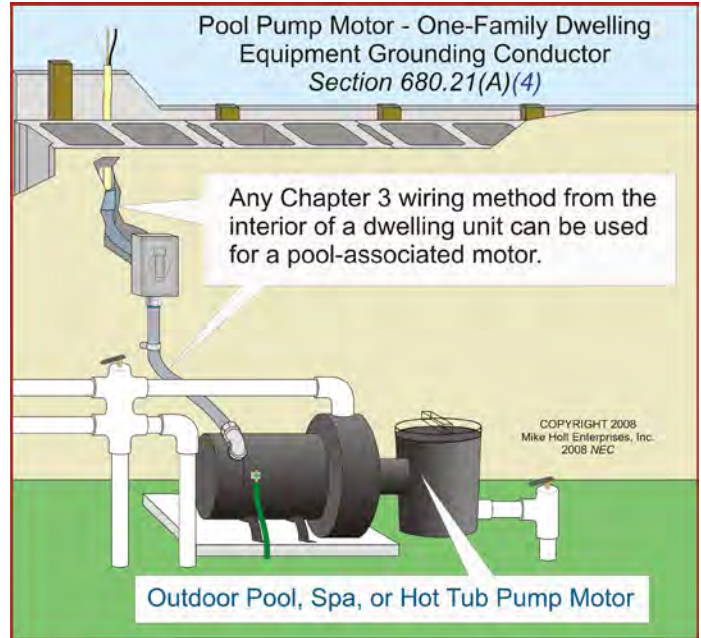

Figure 680-11
(4) One-Family Dwelling. In the interior of a dwelling unit or accessory building associated with a dwelling unit, any Chapter 3 wiring method is permitted. Where branch-circuit conductors are run in a raceway, the wiring method must contain an insulated copper equipment grounding conductor as required by 680.21(A)(1). Where a cable assembly is used, the circuit equipment grounding conductor can be uninsulated. **Figure 680-11**